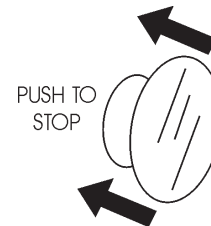

Figure 22. Start/Stop Button (Stop Position)
1. Push the main **start/stop** switch (Figure 22) inward to stop the engine.